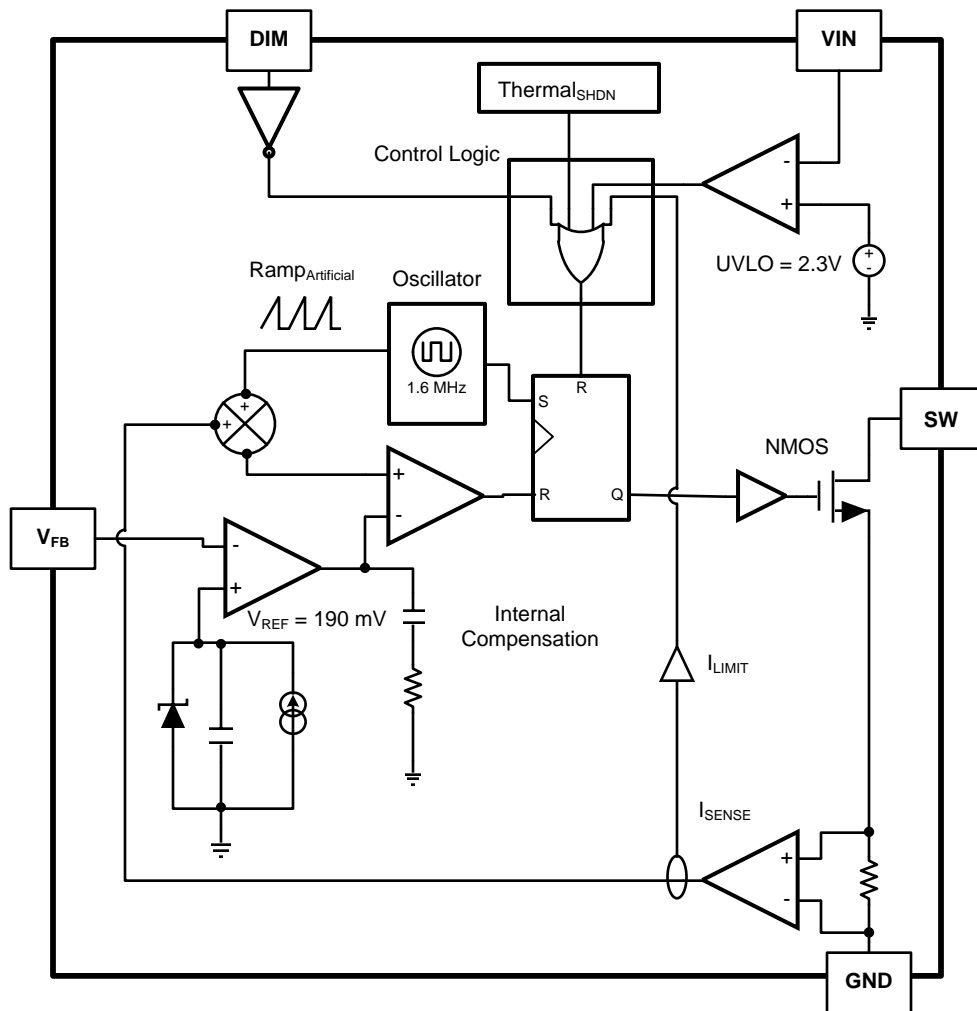

Figure 4. Simplified Block Diagram
The LM3410 is a constant frequency PWM, boost regulator IC. It delivers a minimum of 2.1A peak switch current. The device operates very similar to a voltage regulated boost converter except that it regulates the output current through LEDs. The current magnitude is set with a series resistor. This series resistor multiplied by the LED current creates the feedback voltage (190 mV) which the converter regulates to. The regulator has a preset switching frequency of either 525 kHz or 1.60 MHz. This high frequency allows the LM3410 to operate with small surface mount capacitors and inductors, resulting in a DC/DC converter that requires a minimum amount of board space. The LM3410 is internally compensated, so it is simple to use, and requires few external components. The LM3410 uses current-mode control to regulate the LED current. The following operating description of the LM3410 will refer to the Simplified Block Diagram (Figure 4) the simplified schematic (Figure 5), and its associated waveforms (Figure 6). The LM3410 supplies a regulated LED current by switching the internal NMOS control switch at constant frequency and variable duty cycle. A switching cycle begins at the falling edge of the reset pulse generated by the internal oscillator. When this pulse goes low, the output control logic turns on the internal NMOS control switch. During this on-time, the SW pin voltage ( $V_{SW}$ ) decreases to approximately GND, and the inductor current ( $I_L$ ) increases with a linear slope.  $I_L$  is measured by the current sense amplifier, which generates an output proportional to the switch current. The sensed signal is summed with the regulator's corrective ramp and compared to the error amplifier's output, which is proportional to the difference between the feedback voltage and  $V_{REF}$ . When the PWM comparator output goes high, the output switch turns off until the next switching cycle begins. During the switch off-time, inductor current discharges through diode D1, which forces the SW pin to swing to the output voltage plus the forward voltage ( $V_D$ ) of the diode. The regulator loop adjusts the duty cycle (D) to maintain a regulated LED current.